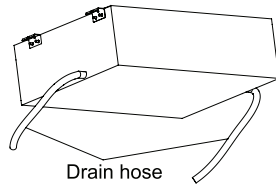
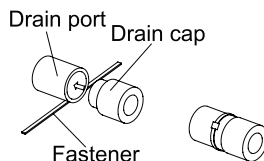

Fig.25
Fig. 27
- (5). Use a suitable drain hose, and see Table 3 for its size.
- (6). There is a drain port on both the left and right sides. Select the drain port to match the local conditions.(Fig. 25)
- (7). When the unit is shipped from the factory, the drain port is defaulted to be the one on the left side (electric box side), the port on right side has been plugged.
- (8). When using the drain port on the right side of the unit, reinstall the drain cap to the left side drain port.(Fig. 27)